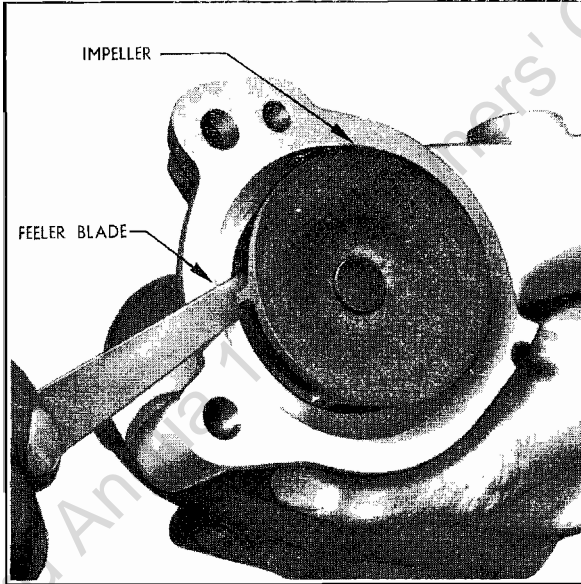

Fig. 7
5. Press the impeller on to the shaft, using the adaptor details a and b, until a clearance of 0.030 in. (0.762 mm.) is obtained between the impeller blades and the housing face as shown in Fig. 7.